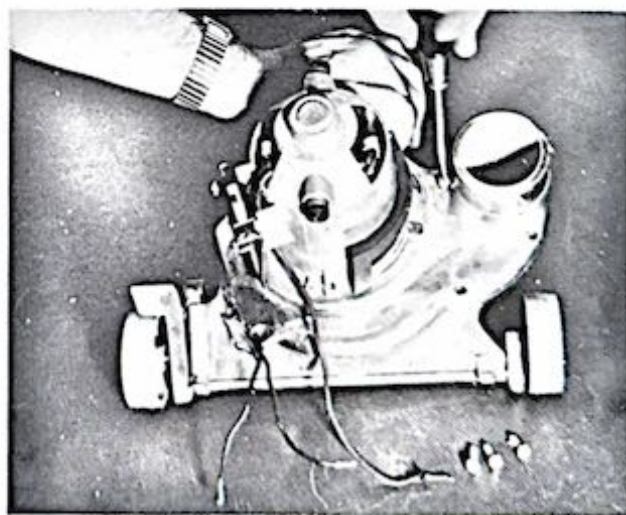

Figure 1-44. Removing rear fan housing screws.
d. Remove the four screws (46) as shown in figure 1-44 and the one longer screw (57, fig. 1-3) in front under the headlight cap, that secure the fan housing (56) to the motor housing casting (40).